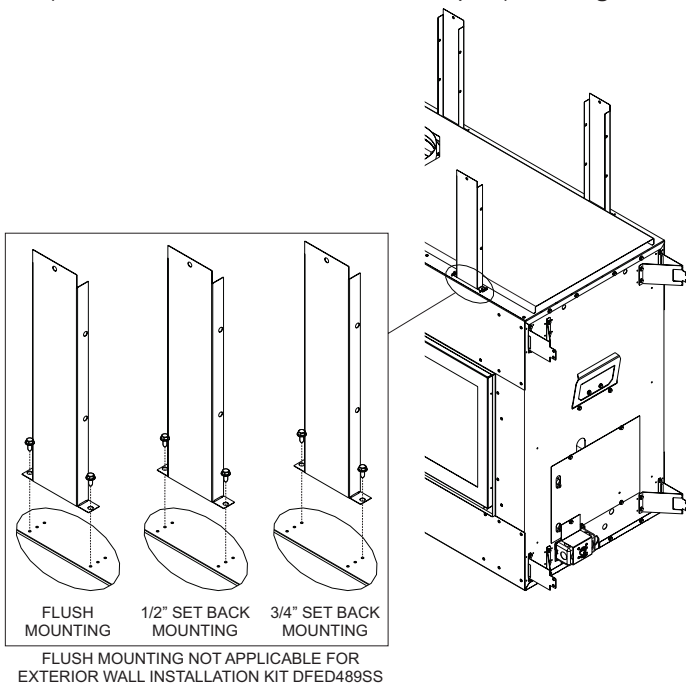

Figure 25
- Attach three top framing brackets to the top front edge of the fireplace. These brackets support the non-combustible board above the fireplace. Preset depth to suit facing material (flush, 1/2 inch, or 3/4 inch set back depths). See Figure 25.